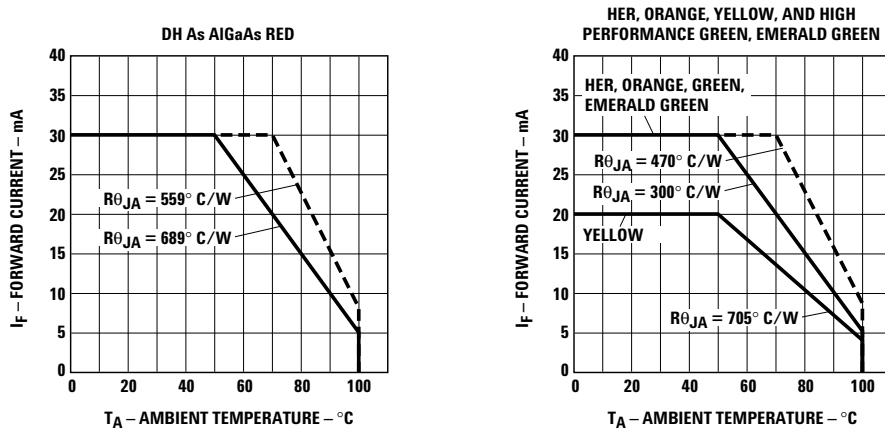

Figure 5. Maximum forward dc current vs. ambient temperature. Derating based on $T_{jMAX} = 110^\circ \text{C}$.
1. See Figure 5 for maximum current derating vs. ambient temperature.